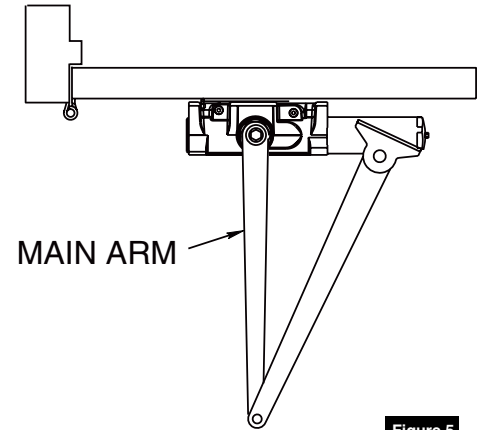

Figure 5
4. Position Arm on Closer. (Figure 5)